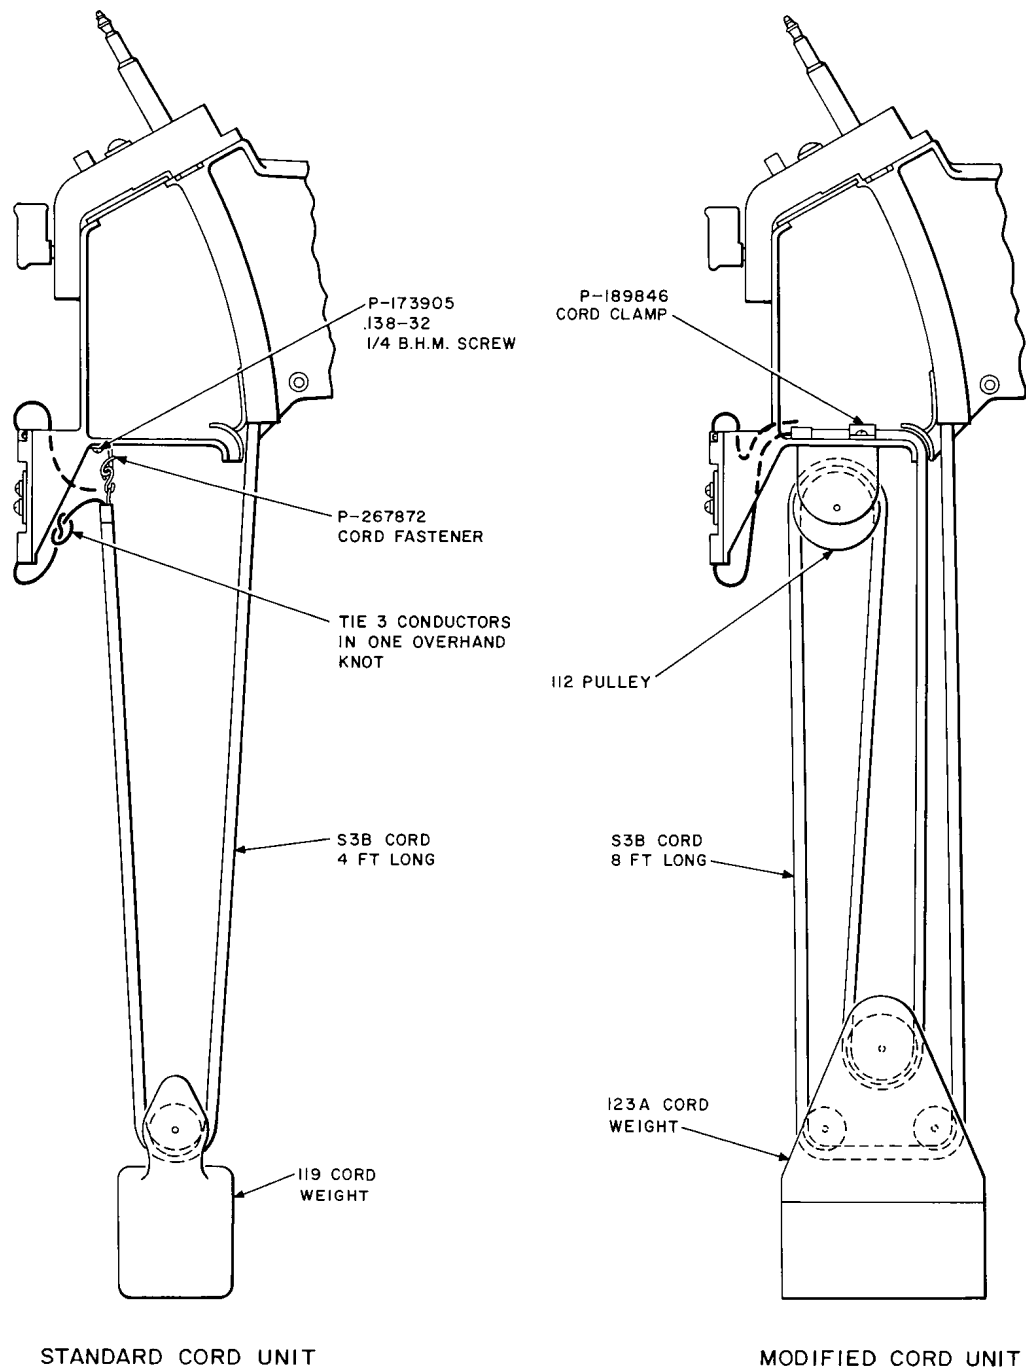

Fig. 15—Method of Installing Cords
3.28 *When installing cord circuit units equipped with 4-foot cords*, tie the three conductors, which terminate on the lower terminals of the cord block, together in one overhand knot as shown in Fig. 15. Care should be taken to avoid wedging the cord conductors between units.